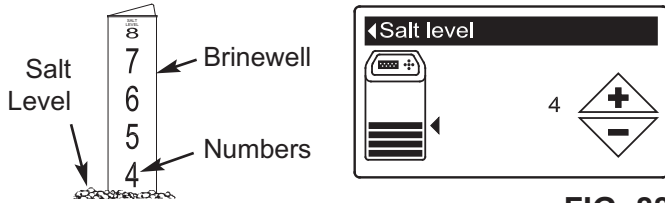

FIG. 88
1. When the conditioner/refiner is displaying the rolling status screens, open the salt lid. The tank light turns on and the Salt level screen appears (See Figure 88).
2. After adding and leveling salt, observe the numbered scale on the brinewell (See Figure 88). Press UP (▲) or DOWN (▼) to match the lowest number visible above the salt.
5. Press the SELECT (○) button to display the Salt level screen (See Figure 88). This screen will not automatically exit for 15 minutes.
6. After adding and leveling salt, observe the numbered scale on the brinewell (See Figure 88). Press UP (▲) or DOWN (▼) to match the lowest number visible above the salt.